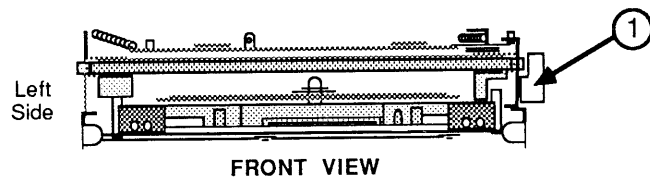

FIGURE 7
5. Place the disk drive mechanism on a flat surface, with the printed circuit board facing down and the disk opening facing you (Figure 7).
6. Press the eject lever at the right side of the disk drive (Figure 7, #1).